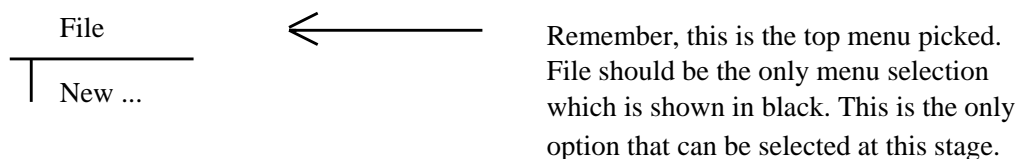

Figure 3: New database
- Choose from the menu the option **New...** (see **Figure 3**).